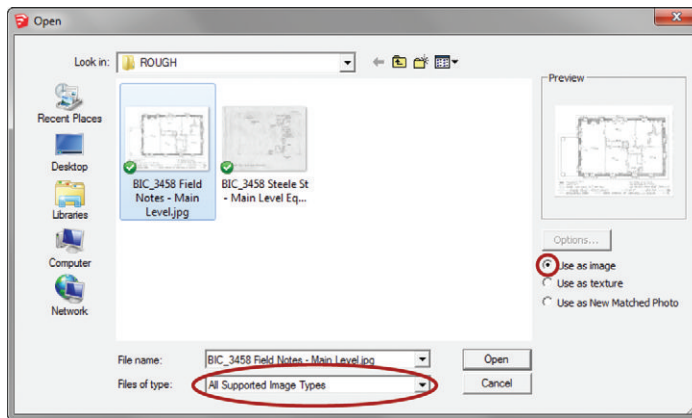

Figure 17.20 The Import settings
4. Click on the File drop-down menu and select Import. Set the Files of Type setting to All Supported Image Types. If you don't, you won't be able to see your scanned image files. Make sure the Use as Image radio button is activated for the import type (Figure 17.20).